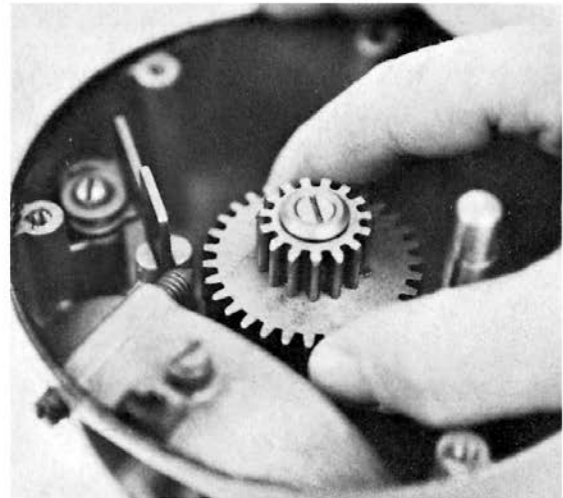

Fig. 3-31
- I. Install the lower transmission shaft and gear assembly (15T and 31T) (Fig. 3-31).